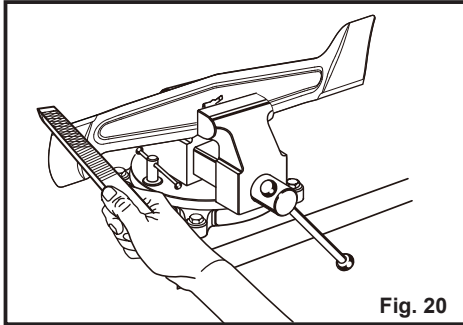

Fig. 20
- Using a fine-tooth file or sharpening stone, sharpen cutting edges on both ends of the blade, removing equal amounts of material from both ends (Fig. 20).